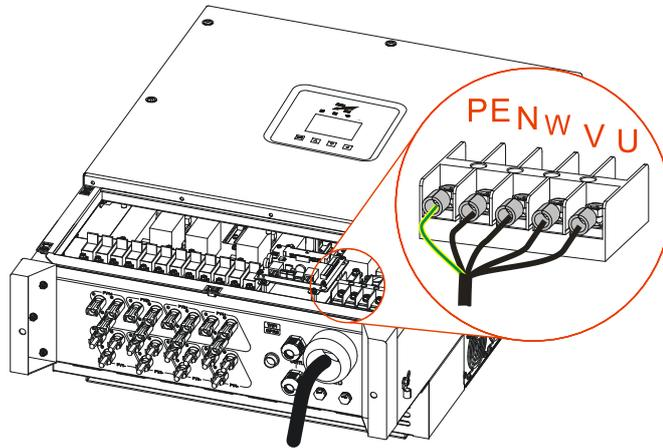

Figure3-22 Wiring diagram for AC wire
Step 3 Loosen the nylon cable gland in the "GRID" and draw the AC wires through it. Connect the wires to round terminals respectively, insert the wires into the corresponding wiring terminals respectively and tighten the screws on the wiring terminals by Phillips screwdriver (or socket wrench), as shown in Figure3-22.